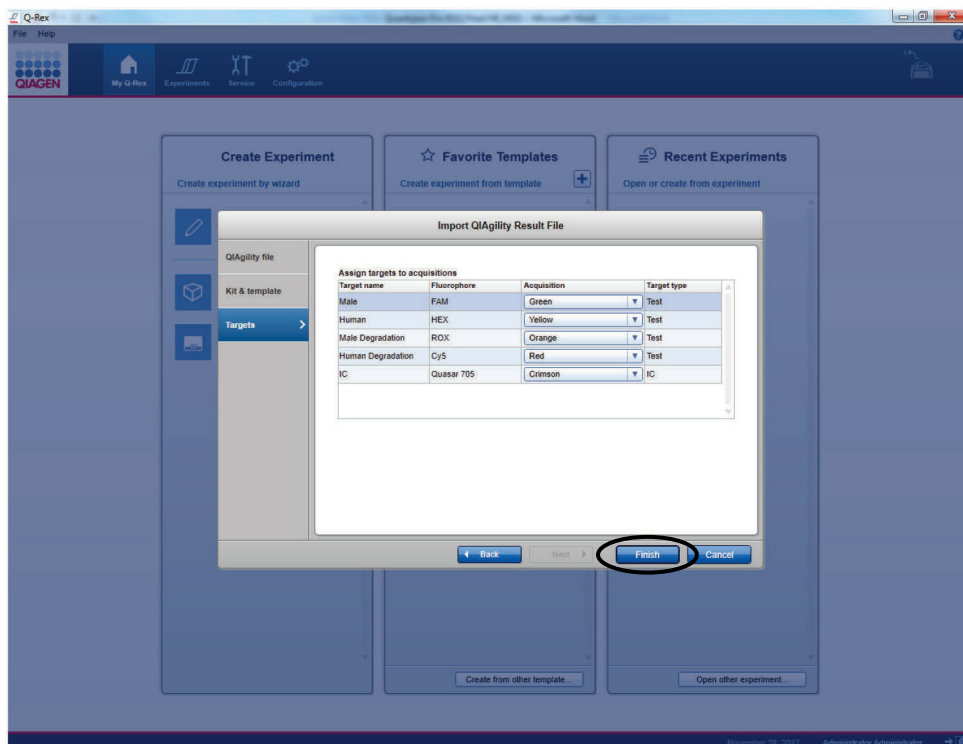

Figure 21. Assigning target names and acquisition channels.
30. Target names are automatically assigned to acquisition channels; click on finish (Figure 21).